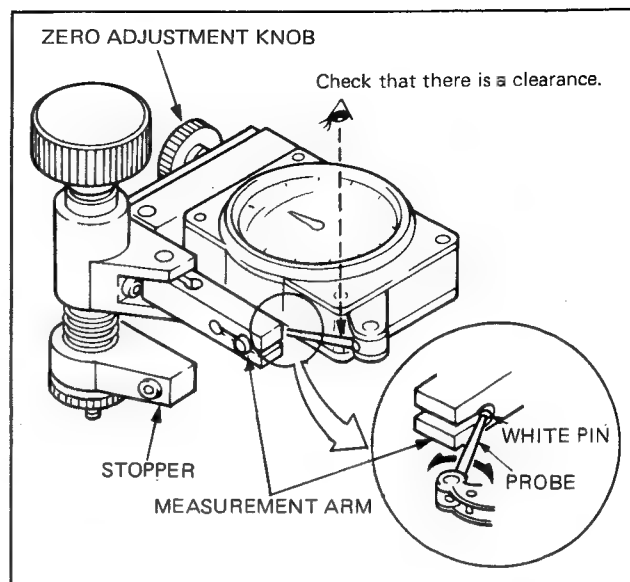

Fig. 3-4. Upper Drum Eccentricity Adj. Gauge
2. Confirm that the tip of the dial gauge probe is at the center of the white plastic pin inserted in the measurement arm. If it is not at the center, adjust the dial gauge probe by moving it as shown in Fig. 3-4.
8. Check that the tip of the dial gauge probe is at the center of the white plastic pin inserted in the measurement arm as shown in Fig. 3-4.